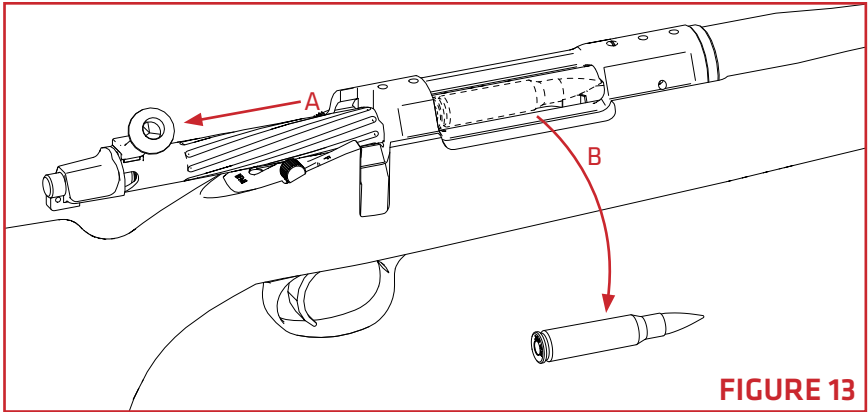

FIGURE 13
3. Once the cartridge is free from the magazine, pull the bolt completely to the rear (**FIGURE 13-A**) and manually remove the loose cartridge (**FIGURE 13-B**).